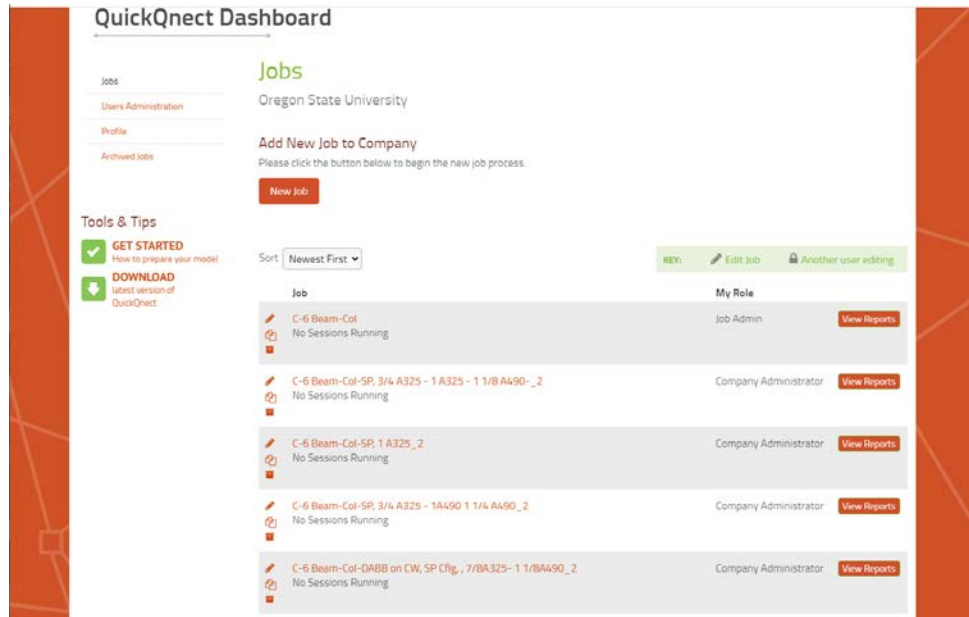

FIGURE 24. JOB LIST WITH MULTIPLE DESIGNS FOR PREFERENCE OPTIMIZATION
The Tekla model will show just one connection, but details of all connections can be obtained through Qnect. The “Jobs” list will now include single-plate (SP) and double-angle bolted (DABB) versions of the “C-6 Beam-Col” job (Figure 24). Click on “View Reports”, select the session name, and click on the  button to move the session to the “Include List”. A dropdown menu and hyperlinks can be used to view the same types of reports (e.g., full connection calculations) accessed in Tekla. Optimization reports comparing costs for different options are also available.